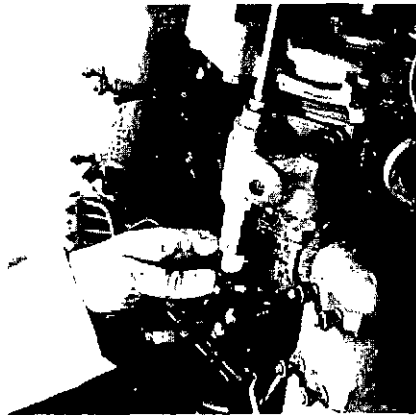

Fig. 23
- (b) Release the clip securing priming plunger on fuel lift pump and operate the plunger (see Fig. 23) until fuel, free from air bubbles, flows from the filter venting point. Tighten the filter vent plug.